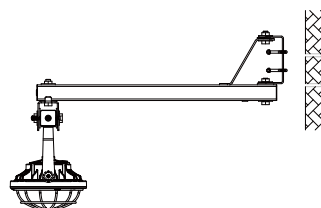

Figure 2
2. Use a hammer to put the expansion screws into the holes (Figure 2).
3. The holes on the bracket should be aligned with the expansion screws, then push the fixture to one side (Figure 2).